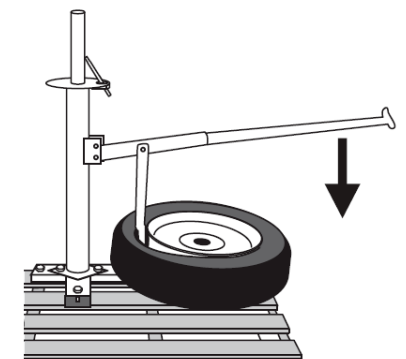

Figure 7
3. Set the Bead Breaker Shoe against the edge of tyre rim. See Figure 7.
4. Insert Mounting/Demounting Bar into Bead Breaker Handle. Once inserted, push down on Bead Breaker Handle, allowing the Bead Breaker Shoe to lift tyre bead off of rim. See Figure 7.